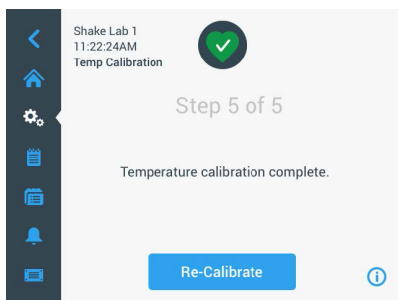

Figure 118: Calibration: Temperature calibration successfully completed
**NOTICE** If you select the H.M.I. option from the list shown in Figure 118 to upgrade the GUI firmware only, the GUI display will not respond to any further tapping on the touchscreen's active area for up to one minute after you have started the firmware upgrade. Please do not power off the shaker during this period, otherwise the upgrade will not be completed successfully. The shaker will restart after a short time and then be ready for use again.